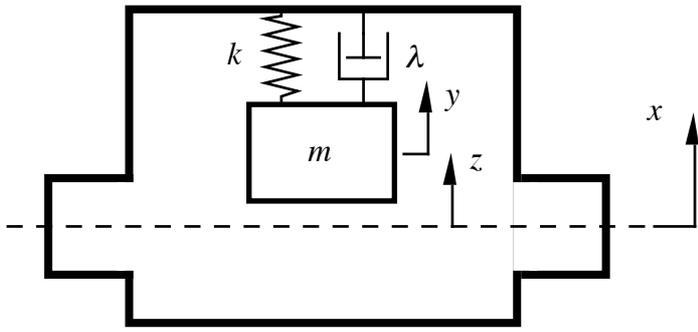

Fig. 4 (for Q. 7)
7. A seismic vibration transducer contains a mass  $m$  suspended on a spring  $k$  and a dashpot  $\lambda$  as shown in Fig. 4. The *absolute* vertical displacements of the mass and of the box are  $y$  and  $x$  respectively. The motion of the mass *relative* to the casing is given by  $z = y - x$ .